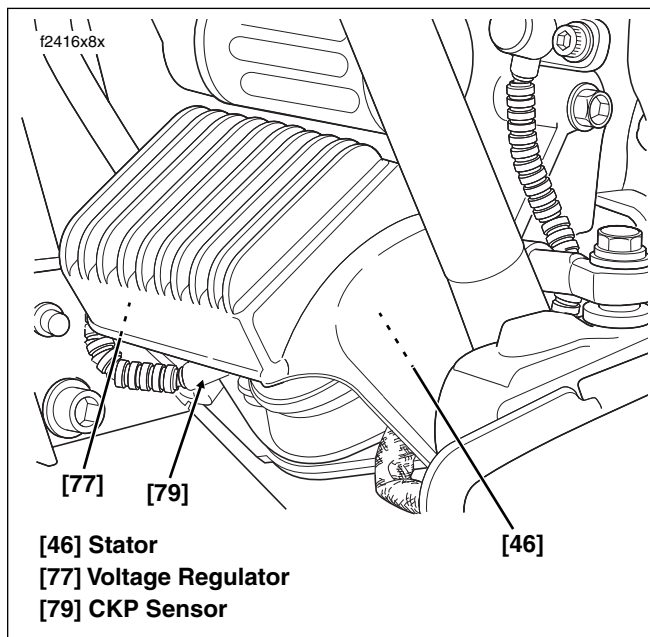

Figure 8-15. Voltage Regulator (Left Side View)
5. Locate CKP sensor connector [79], 2-place Deutsch, fixed to bracket at bottom of voltage regulator. Push connector toward right side of motorcycle to disengage attachment clip from T-stud on bracket. See Figure 8-15.
2. Locate CKP sensor connector [79], 2-place Deutsch, fixed to bracket at bottom of voltage regulator. Push connector toward right side of motorcycle to disengage attachment clip from T-stud on bracket. See Figure 8-15.
5. Capture stator connector conduit in left side P-clip. Capture voltage regulator connector conduit and CKP sensor connector convoluted tubing in right side P-clip. See Figure 8-15. Remove slack to ensure that stator conduit and CKP sensor tubing does not contact front engine stabilizer link.